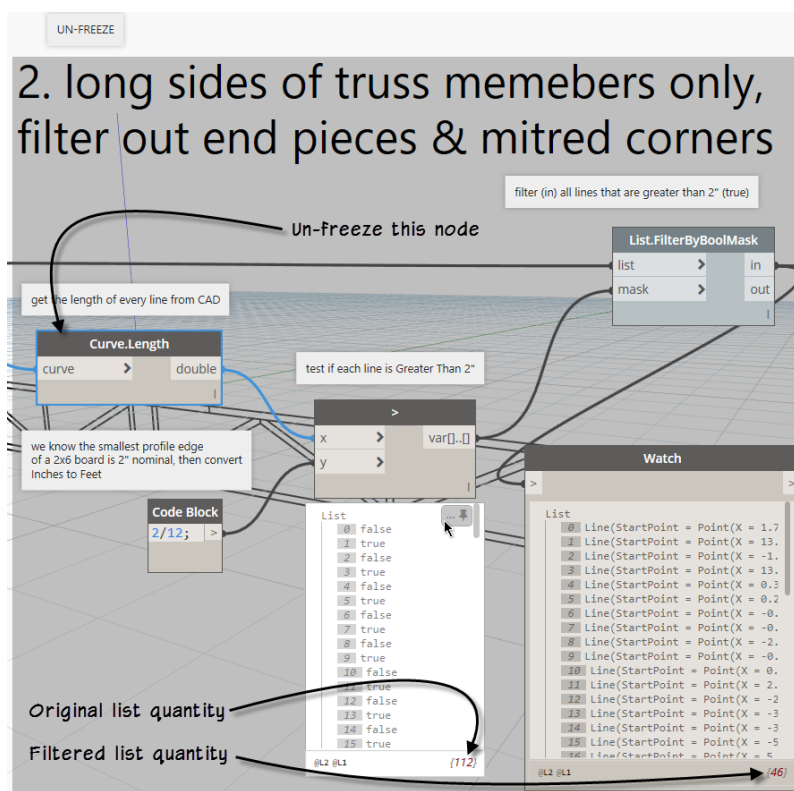

Figure 81
9. Run the graph. Study the results in the preview bubble and **Watch** nodes (see Figure 81).